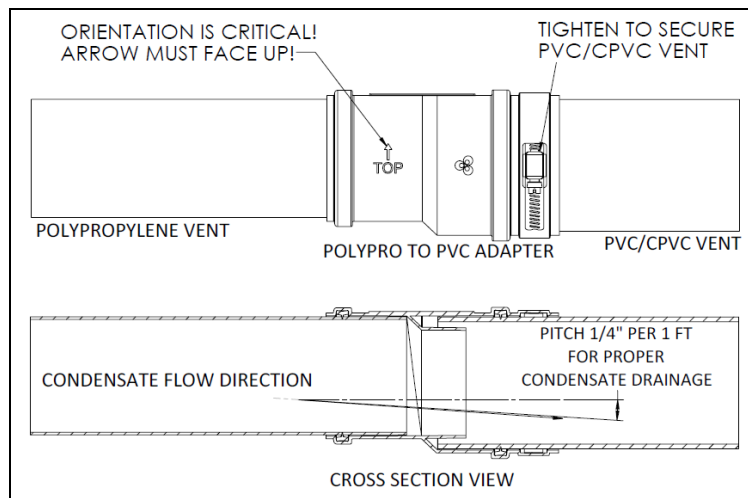

Figure 10 – Connecting the Polypro to PVC Adapter
3. The length of the flexible liner can be determined in two ways: 1) Use a rope with a small weight on the end to measure shaft length. Add 16 inches (.4 m) extra length for each bend. The flexible liner can be shortened with a saw or scissors by cutting in a groove. 2) Correct liner length can also be determined after installing the liner in the shaft and cutting it as the top of the chimney or chase (see Fig. 10, Dimension B).
15. When installing the Polypro to PVC adapter, first connect the adapter by pushing it onto the Polypro pipe. **Be certain that the arrow on the adapter is facing up.** Next, slide the PVC/CPVC pipe into the adapter. Use a flathead screwdriver to tighten the adapter to the pipe. Once the adapter is connected, be certain that it pitches $\frac{1}{4}$ " per foot to ensure proper condensate drainage (see Figure 10).